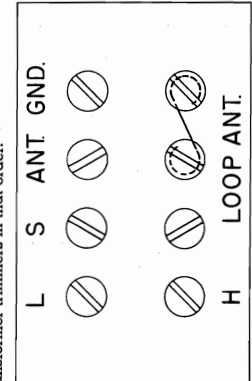

FIGURE 1
1. Remove the signal generator lead from the 6SA7 grid and connect it to the radio antenna terminal through the .00025 mfd. capacitor. The link on the antenna terminal board must be set in the ANT position as shown in Figure 1.